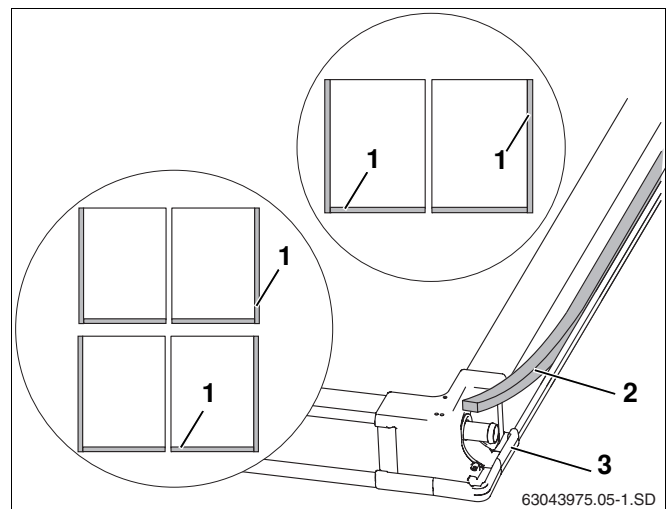

Fig. 23 Back of the collector
The connections between the side and lower facing collectors and the collectors (Fig. 23, **Item 1**) must be sealed with the sealing tape.
- Insert sealing tape (Fig. 23, **Item 2**) adhesive side first into the recessed channel on the outer edges of the outer collectors and at the bottom of every collector (Fig. 23, **Item 1**) incl. the corner connector (Fig. 23, **Item 3**).